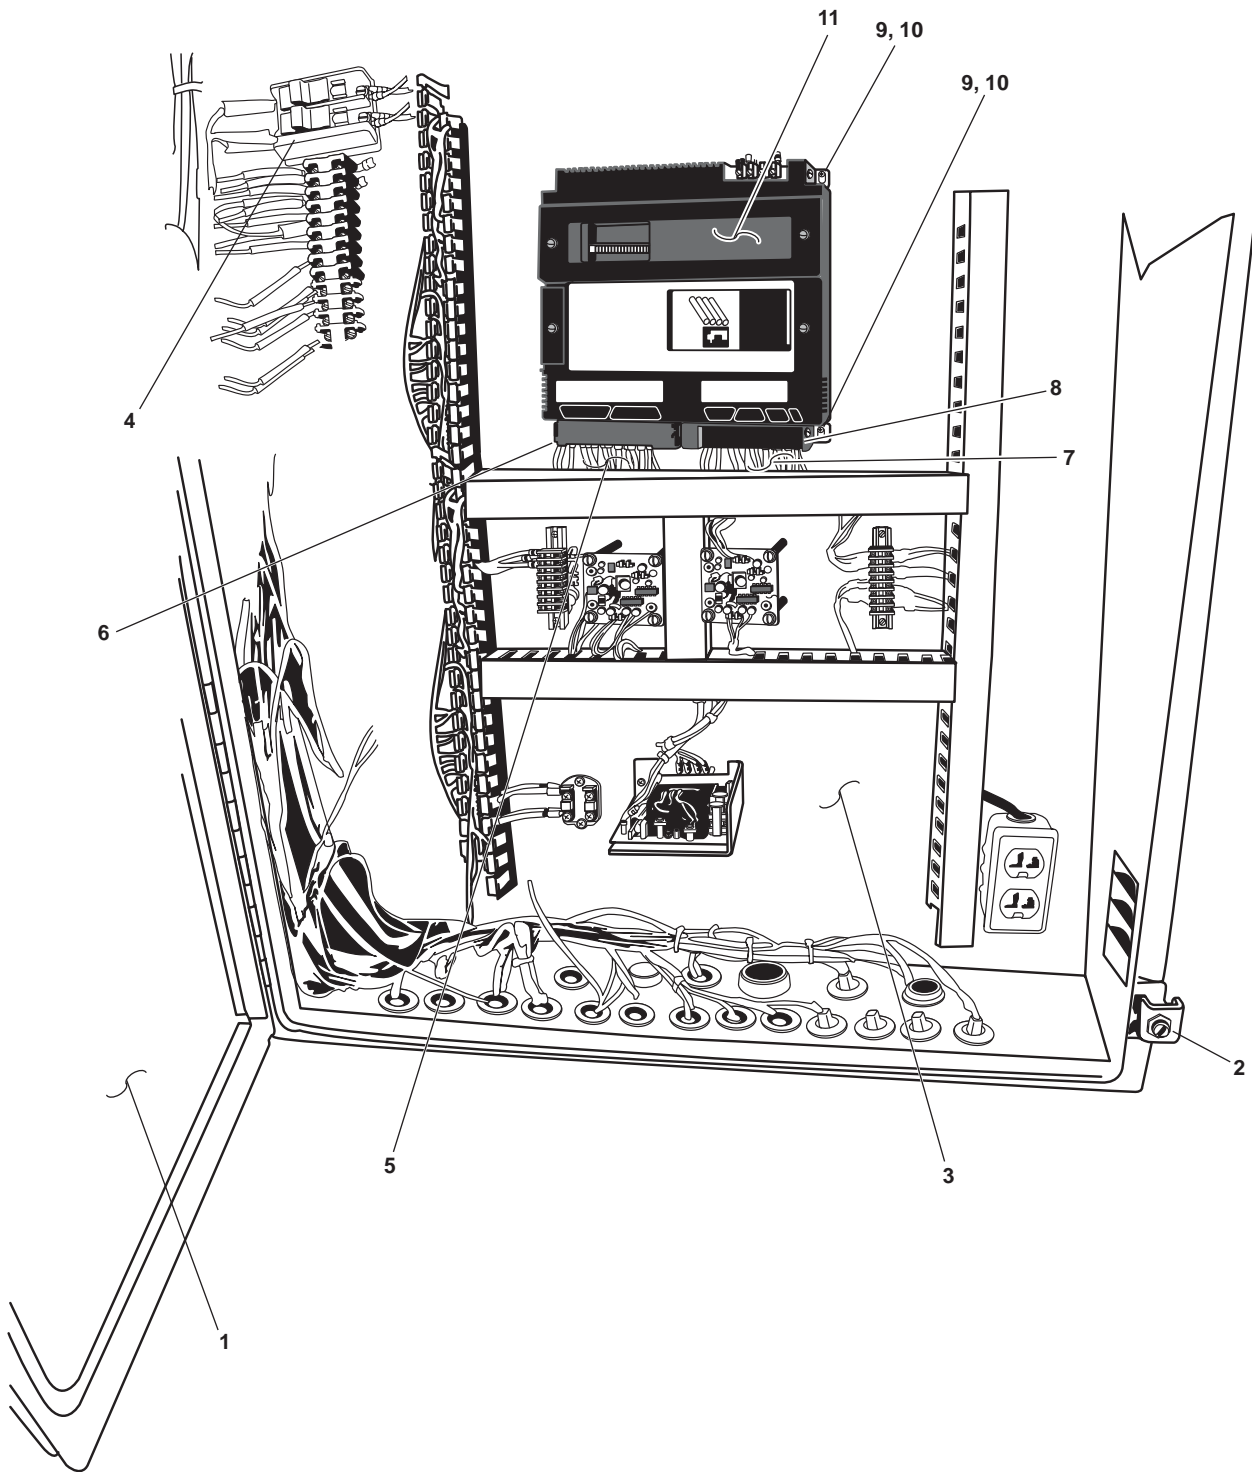

Figure 1. Towing Machine Control Panel (Vestibule)
1. Open the control panel door (figure 1, item 1) by loosening the two locking clamps (figure 1, item 2).
2. Using a multimeter, check the control panel (figure 1, item 3) for voltage at the fuse block (figure 1, item 4). If voltage is present, secure the proper circuit breaker and ensure that it is locked out and tagged out (FM 55-502) and then continue with the procedure. If there is no voltage present, continue with the procedure.
3. Label and disconnect the wiring (figure 1, item 5) from the input terminal (figure 1, item 6).
4. Label and disconnect the wiring (figure 1, item 7) from the output terminal (figure 1, item 8).
5. Remove the four bolts (figure 1, item 9) and four washers (figure 1, item 10) from the programmable controller (figure 1, item 11).
6. Remove the programmable controller (figure 1, item 11) from the control panel (figure 1, item 3).
1. Place the programmable controller (figure 1, item 11) in the control panel (figure 1, item 3) and secure it with the four bolts (figure 1, item 9) and the four washers (figure 1, item 10).
2. Connect the wiring (figure 1, item 7) to the output terminal (figure 1, item 8) using the labels from step 4 of Removal as a guide. Remove the labels.
3. Connect the wiring (figure 1, item 5) to the input terminal (figure 1, item 6) using the labels from step 3 of Removal as a guide. Remove the labels.
4. Close the control panel door (figure 1, item 1) and tighten the two locking clamps (figure 1, item 2).